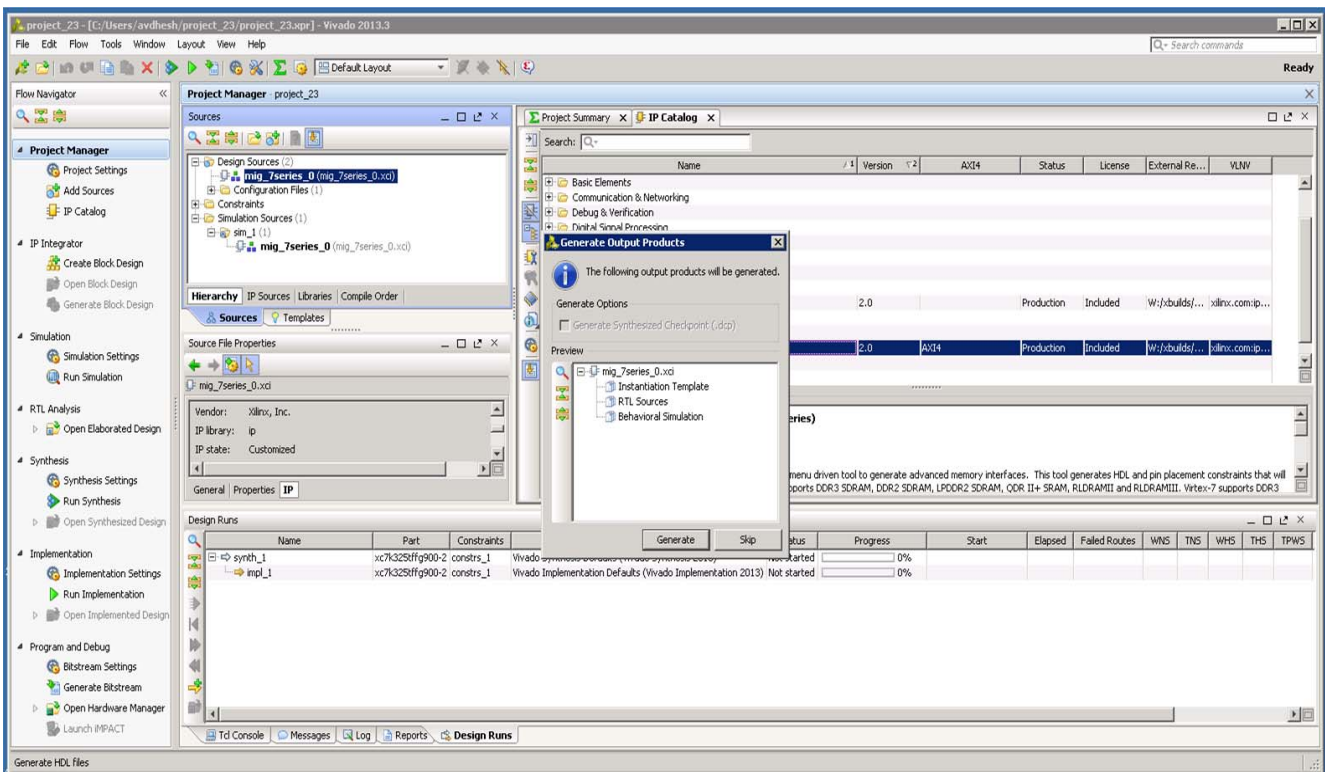

Figure 2-33: Generate Window
7. Clicking the **Generate Output Products** option brings up the **Manage Outputs** window (Figure 2-33).